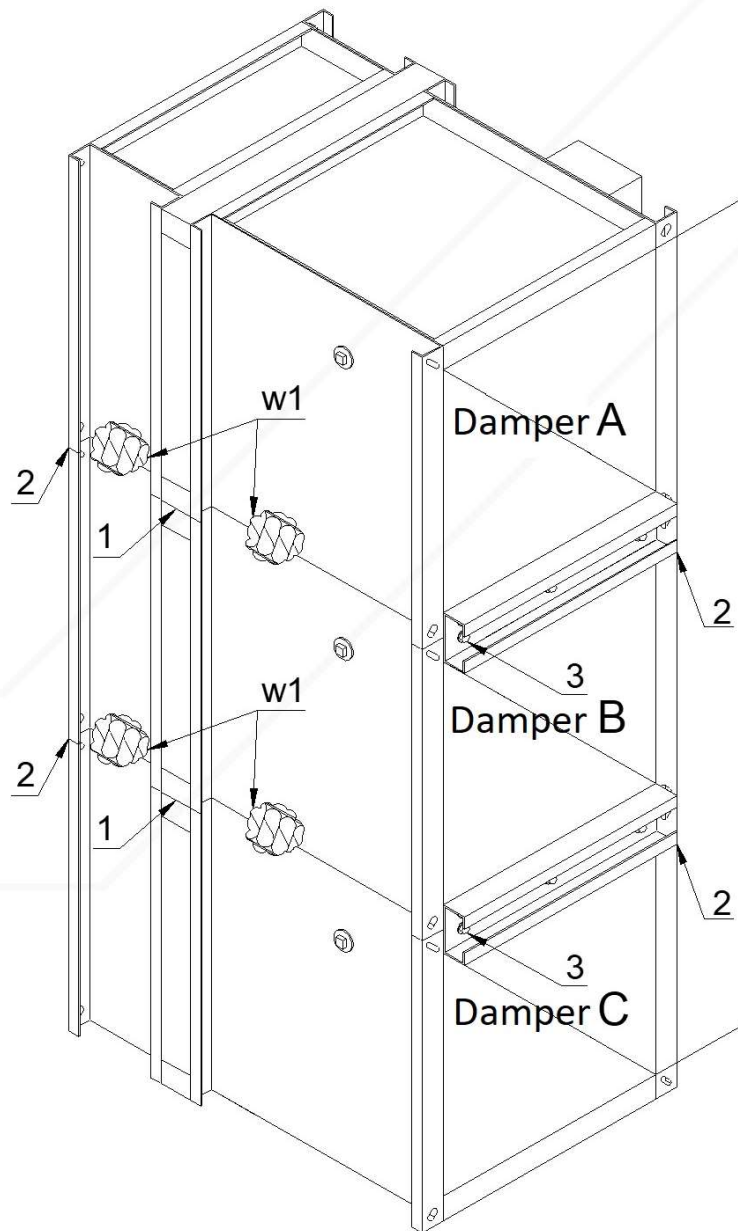

Figure 11. Arrangement 2 - vertical battery consisting of three fire dampers KWP-O-Ex
Arrangement 1 – vertical battery consisting of two fire dampers KWP-O-Ex (Figure 11)
- Fix the gasket on insulating spacer of one of adjoining fire dampers (position (1) in the Figure 11).